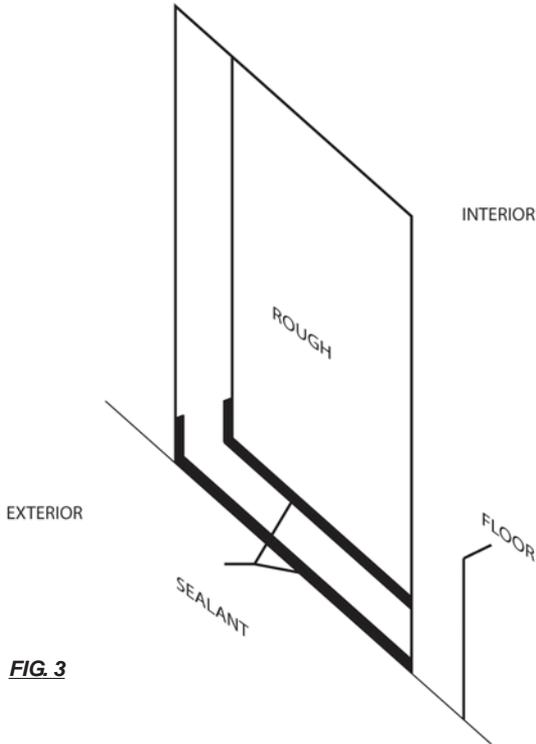

FIG. 3
4. Apply sealant on the floor so the outside edges of the sill (both sides) will be sealed to the floor extending about 6" up the frame/jamb, see Fig. 3. Prior to using sealant, see WARNING! below.